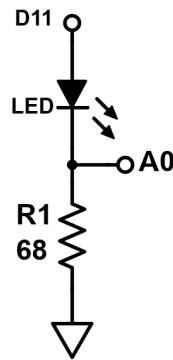

Figure 2: Toggling an LED on/off with a digital output.
1. Build the LED + current limiting resistor circuit shown in Figure 2. Note: you can just modify your previous circuit. For now, start with the red LED you already had.